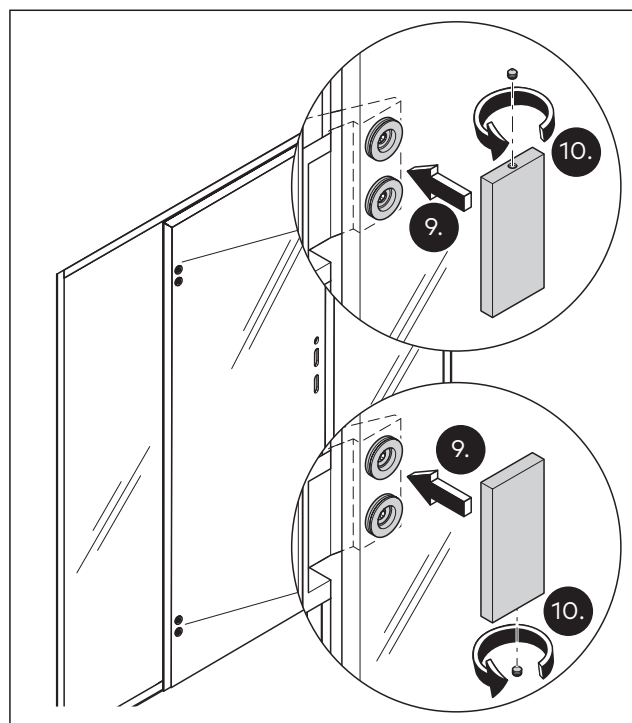

Fig. 54 Attach the covers to the hinges.
9. Attach the covers to the hinges (Fig. 54).